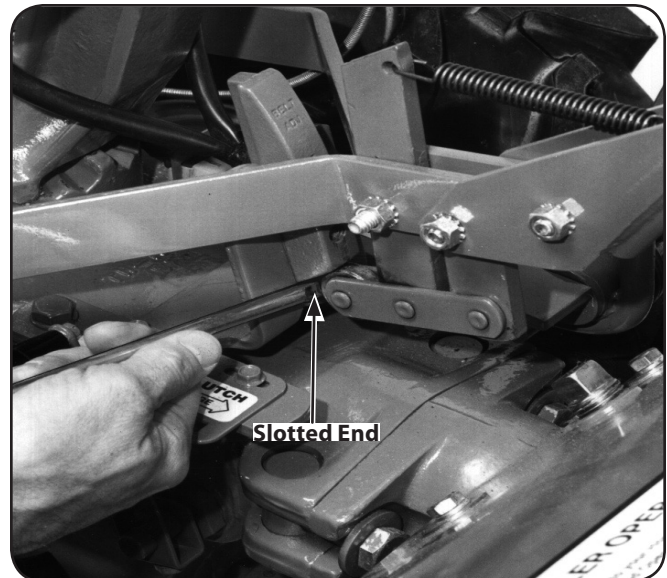

Figure 6-14
- a. Without moving the clutch roller, try inserting the  $\frac{1}{4}$ "-thick, slotted end of the belt adjustment tool in between the roller and the upright bracket. The flat edge of the tool must be facing the roller. See Fig. 6-14.